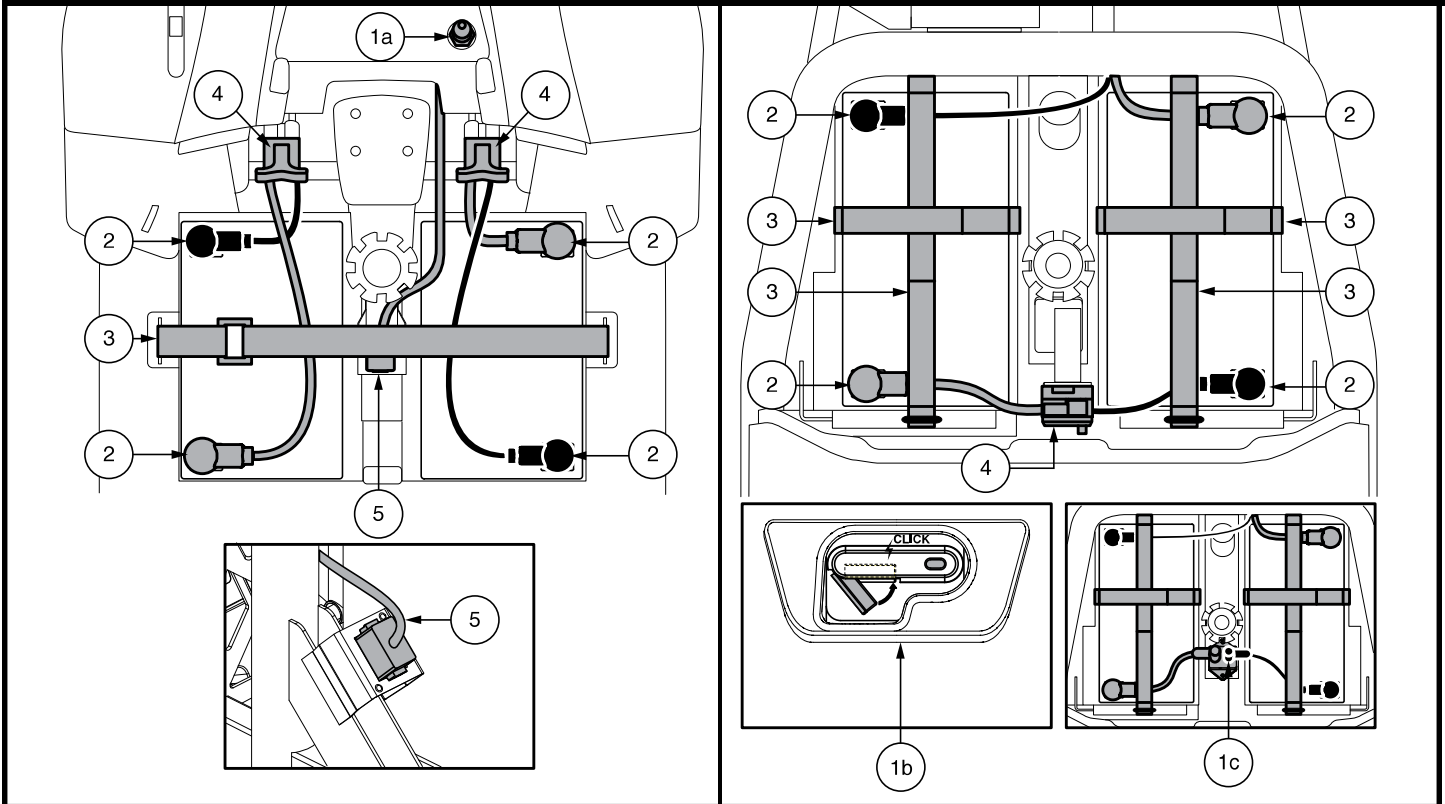

Figure 14. Battery Removal/Installation Terminals and Connections
3. For all models EXCEPT 614 and 714, disconnect the front-to-rear harness. Unplug both battery harnesses by pulling each harness out of its mating plug. See figure 14.
6. Place a new battery in each battery well. Face the battery terminals of each battery away from the seat post with the positive (+) and negative (-) battery terminals positioned as shown in figure 14.